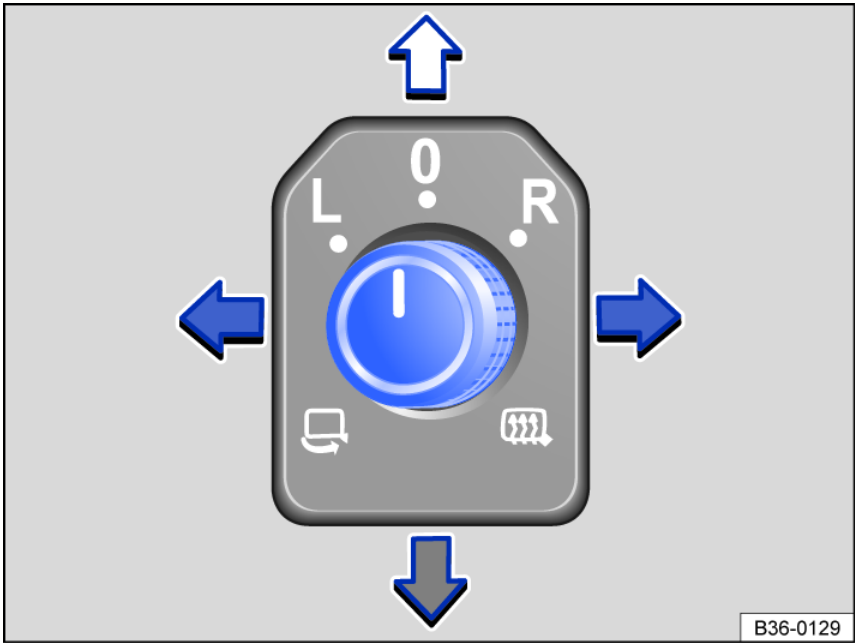

Fig. 104 In the driver door: knob for the exterior mirrors.
- Turn the knob in the driver's door to the desired symbol fig. 104.